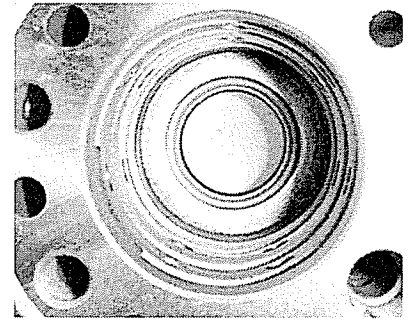

Figure 20
15. Inspect seal installation. Seal and o-ring must both be within shaft seal counter bore of housing (figure 20)